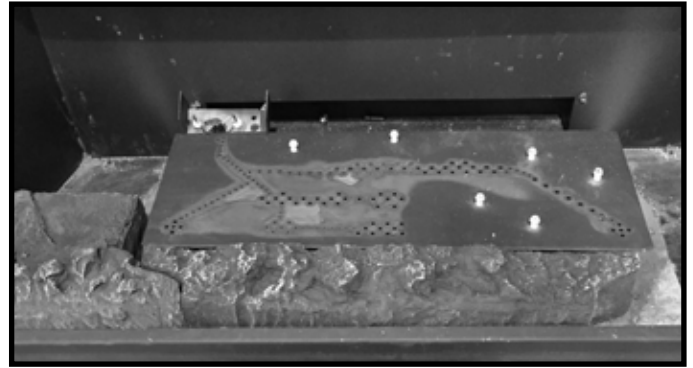

Figure 11.3 Install Center Hearth Component
2. Locate the center hearth component shown in Figure 11.3 and install it adjacent to the left hearth component as shown in Figure 11.5.